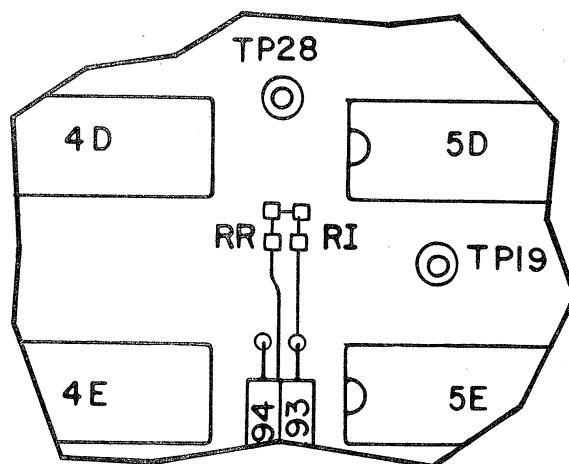

FIGURE 3-13. RADIAL TRACES
1. Cut away the trace at RI located near 5D and 4D. See Figure 3-13.